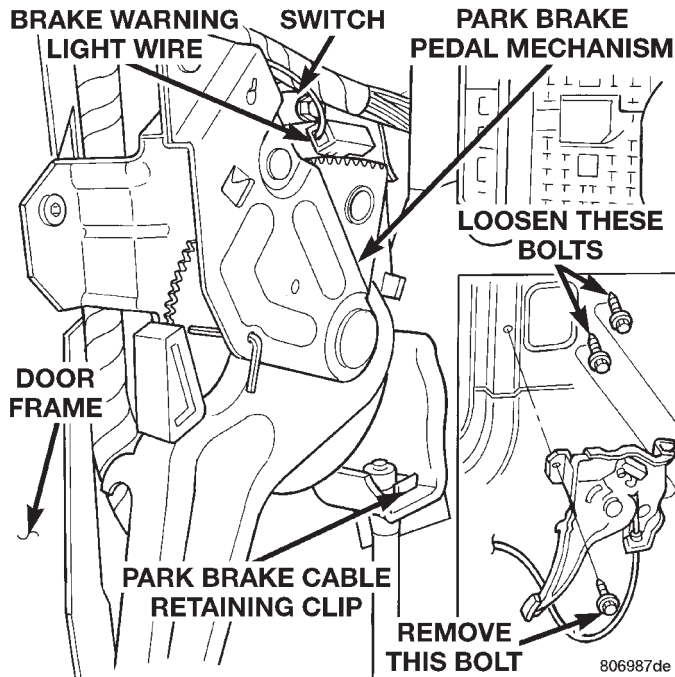

Fig. 112 Park Brake Pedal Assembly Mounting
(11) Remove the bolt (Fig. 112) attaching park brake pedal assembly to left front door frame. Loosen but do not remove the 2 bolts (Fig. 112) attaching park brake pedal assembly to cowl panel. Unplug the brake warning light connector from switch on park brake pedal assembly. Remove park brake pedal mechanism and front park brake cable as an assembly from the vehicle.
(4) Install park brake pedal mechanism onto the 2 loosened mounting bolt on cowl panel (Fig. 112). Install the park brake pedal assembly retaining bolt into door frame (Fig. 112). Torque all 3 park brake assembly mounting bolts to 27 N·m (19 ft. lbs.).
(5) Connect the brake warning light wire from vehicles wiring harness, onto switch located on park brake pedal mechanism (Fig. 112).
(6) Route front park brake cable along floor of vehicle. Install end of front park brake cable into